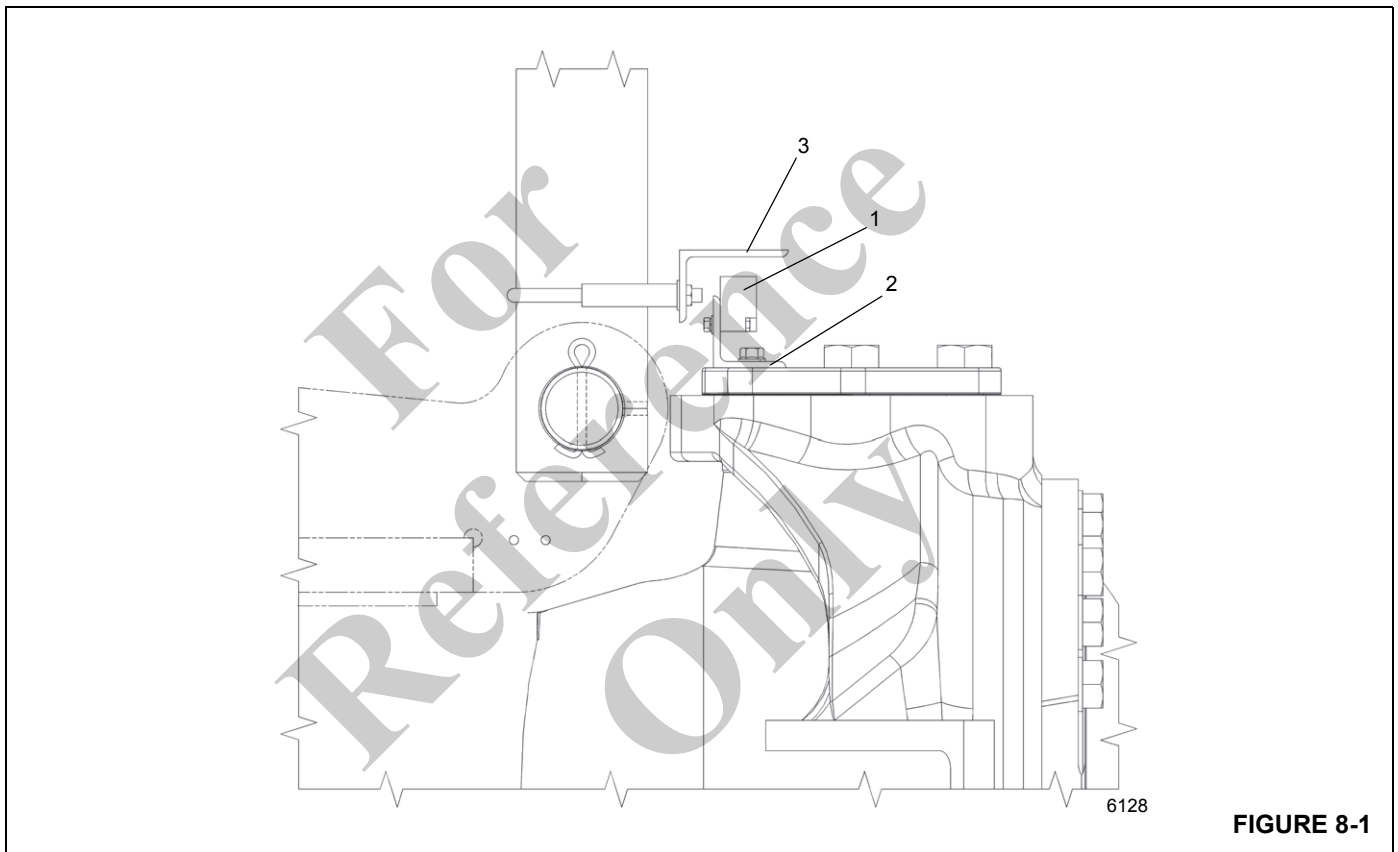

FIGURE 8-1
**NOTE:** Refer to (Figure 8-1) for rear wheels not centered switch adjustment.